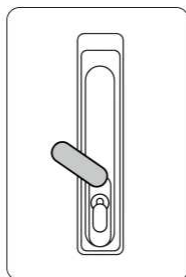

Figure.2
2. Move upward the cover above the keyhole. See the Figure.2